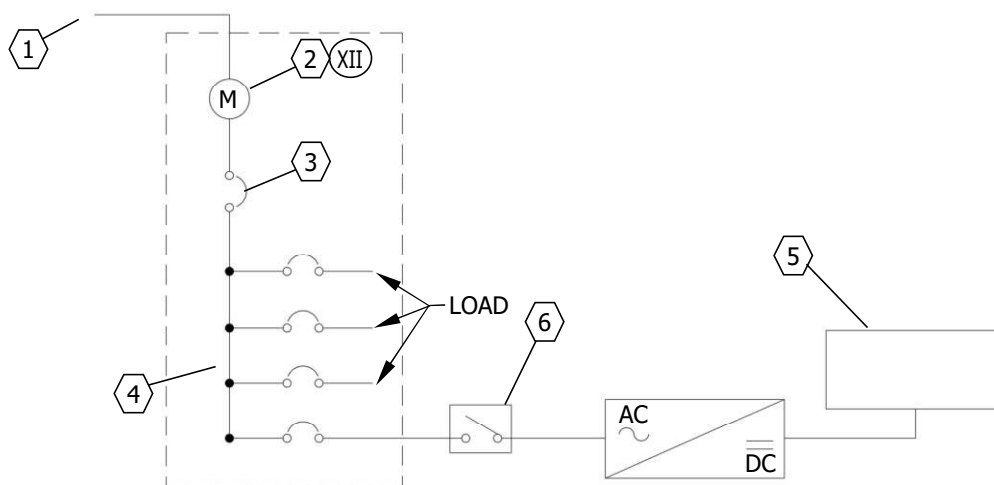

FIGURE 2
- I. CUSTOMERS PLANNING TO INSTALL A GENERATOR THAT WILL OPERATE IN PARALLEL WITH SDG&E'S ELECTRIC DISTRIBUTION SYSTEM FOR THE PURPOSE OF (1) ONLY SERVING THEIR OWN ELECTRICAL LOAD, (2) SERVING THEIR OWN ELECTRICAL LOAD AND EXPORTING EXCESS POWER TO THE GRID OR (3) ONLY EXPORTING POWER TO THE GRID, MUST SUBMIT AN APPLICATION FOR INTERCONNECTION AND RECEIVE WRITTEN AUTHORIZATION FROM SDG&E TO INTERCONNECT AND OPERATE IN PARALLEL.
- (II) A SITE PLACARD IS REQUIRED AT THE SERVICE AND METERING EQUIPMENT. (a)
- (III) A DISCONNECT SWITCH IS HIGHLY RECOMMENDED BUT NOT REQUIRED. REFER TO FIGURE 2 IF INSTALLING A DISCONNECT SWITCH.